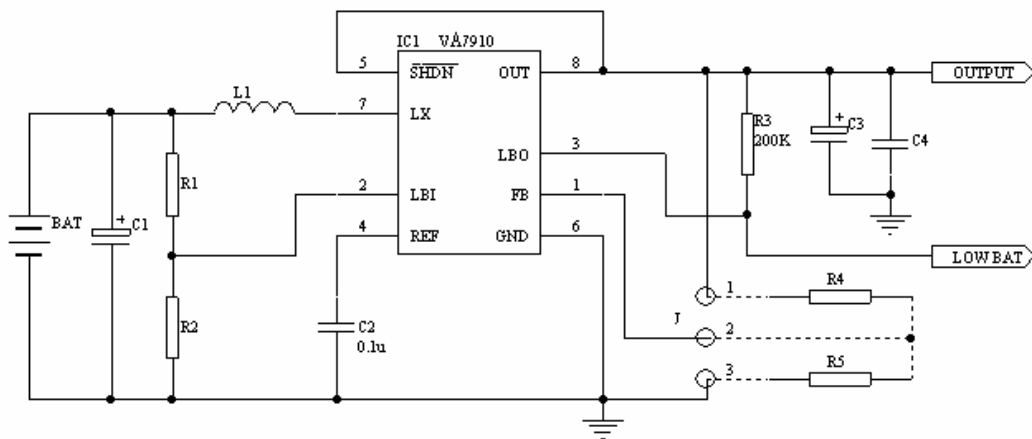
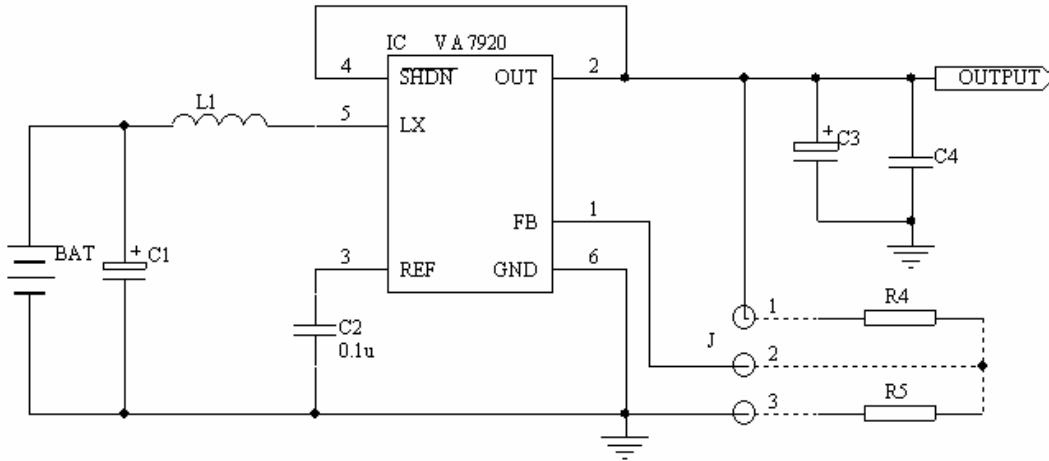

Fig3 VA7910 typical application diagram
Fig4 VA7920 typical application diagram
VA7910/VA7920 realizes the high efficiency step up conversion through controlling the internal active switch maximum On-Time and minimum Off-Time and tailoring the inductor maximum current limit. Fig3 and fig 4 shows the typical application circuit. Following is the detailed description.
a) FB connected to GND The output voltage is an invariable value of 5V. Please refer to the typical application as shown in fig 3 and fig 4. Connect 2 and 3 of J with a shunt. R4 and R5 is not used.
b) FB connected to OUT pin The output voltage is an invariable value of 3.3V. Please refer to the typical application as shown in fig 3 and fig 4. Connect 1 and 2 of J with a shunt. R4 and R5 also is not used.
c) FB connected to an external resistor divider The output voltage is adjustable from 2V to 5V. Please refer to the typical application as shown in fig 3 and fig 4. Let R4 be connected between 1 and 2 and R5 be connected between 2 and 3 of J. And the output voltage is defined by the following relationship:
Low battery detection is realized by comparing the voltage between LBI pin and the reference ($V_{REF}=1.15V$). We can use external resistor divider to realize the battery detection which above the 1.15V reference voltage (as shown in Fig 3 and Fig 4)
An additional, smaller, low ESR capacitor can be used in parallel for higher frequency filtering. The typical value is around 1uF(as shown in ig3 and Fig4).